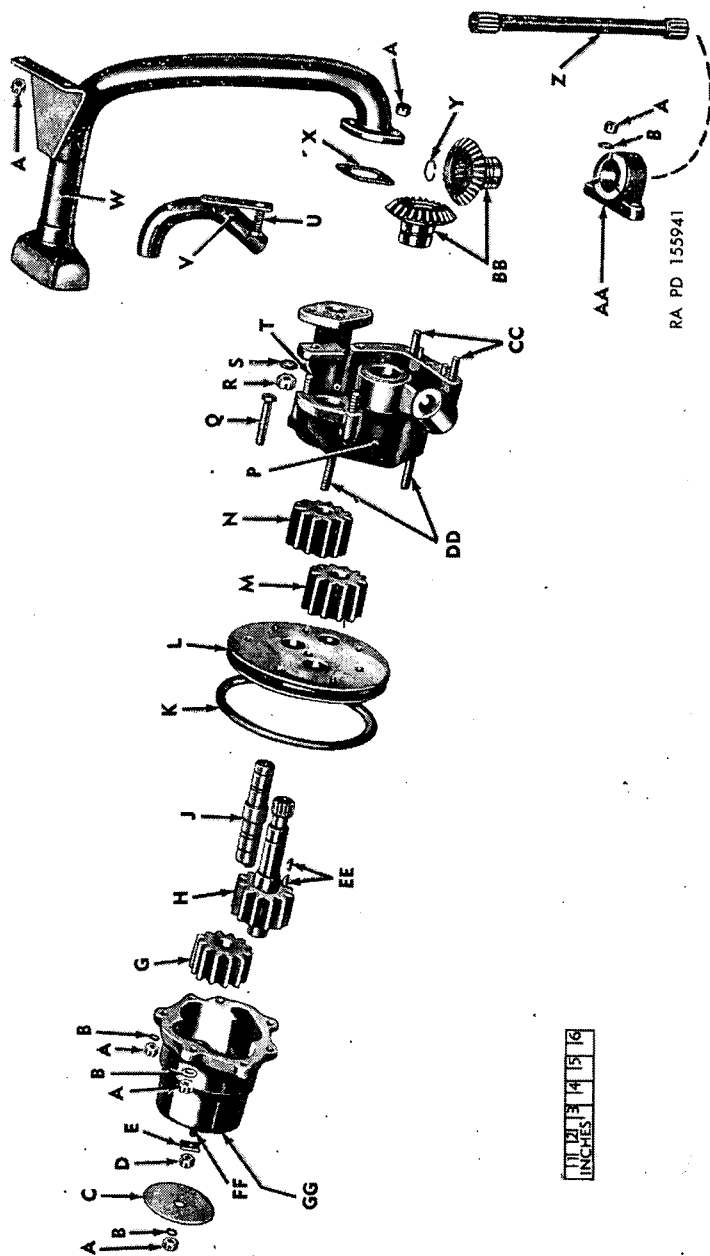

Figure 71. Scavenger and pressure oil pump and lines—exploded view.
c. Assembly (fig. 71).
- (1) Install the pressure pump driven impeller (G) on the impeller driven shaft (J) from the milled-locking face end. Insert the shaft in the bearing of the pressure pump housing (F), and secure it with locking plate (E), slotted nut, and locking wire. Lubricate all gears, shafts, and bearings with engine oil.
- (2) Install the pressure pump screen assembly (C) on the drilled stud in the bottom of the pressure pump housing (F). Secure with plain washer, slotted nut, and locking wire.
- (3) Install the pressure pump drive impeller with shaft (H) in the pressure pump housing.
- (4) Install "O" ring gasket (K) on the separator plate (L) and install the separator plate assembly over the shafts, matching the dowel pins with the proper dowel holes in the pressure pump housing.
- (5) Insert the Woodruff keys (EE) in the pressure pump drive impeller with shaft (H) and slip on the scavenger pump drive impeller (M). Install the scavenger pump driven impeller (N) on the impeller driven shaft (J).
- (6) Assemble the scavenger pump housing (P) to the separator plate assembly (L) and pressure pump housing (F), and secure with drilled bolts, plain washers, slotted nuts, and locking wire.
- (7) Install the drive and driven (2) bevel gear (BB) in the bearing in the scavenger pump housing assembly (P).
- (8) Assemble the drive and driven (2) bevel gear (BB) in